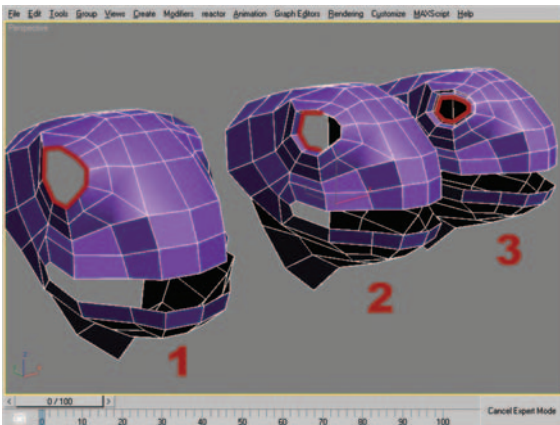

Figure 9.23 Border selection (1), shift-dragged inward and scaled down (2), shift-dragged out and scaled down (3).
23. At the Border subobject level, select the eye opening (mesh 1). Shift-drag the border inward to create a recess for the eye socket (mesh 2). Scale the new border to a slightly smaller size. Shift-drag the selected border outward to create the base of the eyelid. Scale this selection down a little as well. Figure 9.23 shows the border selection and the result of the two shift-drag operations.